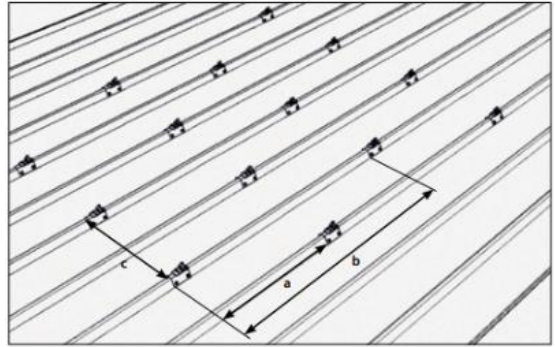

Fig 4.1.2: Screw fixing and shading distances
- I. The fasteners (Rapid2+ Pro SMLs or Seam Clamps), based on the roofing sheet application, are positioned as per the installation plan. The variables **A**, **B** and **C** as per [Fig 4.1.2] need to be determined at the site before securing the FixZ Pro frames to the roof purlins.
- II. **A** determines the spacing between the fasteners to position the FixZ rails to achieve the required tilt as per [Fig 4.1.2].